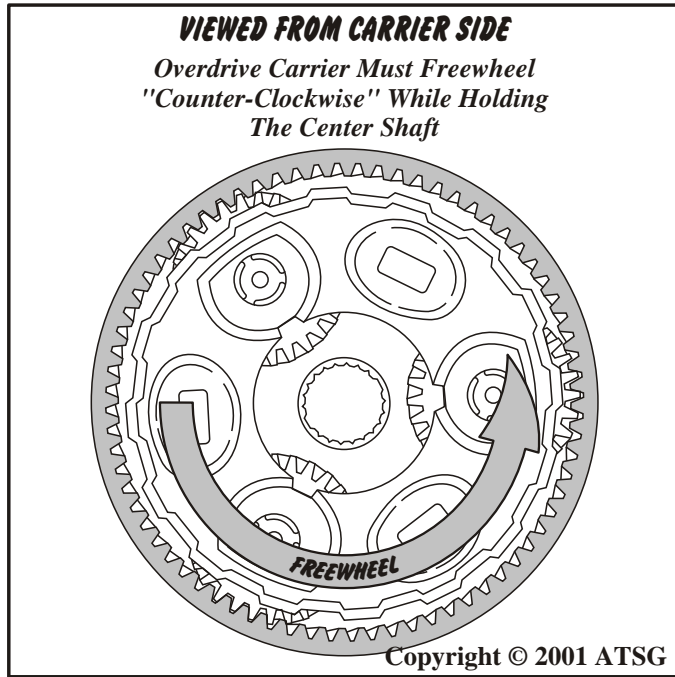

Figure 73
7. Verify proper overdrive sprag rotation, using Figures 73 or 74, and then set the overdrive planetary carrier aside for final assembly.